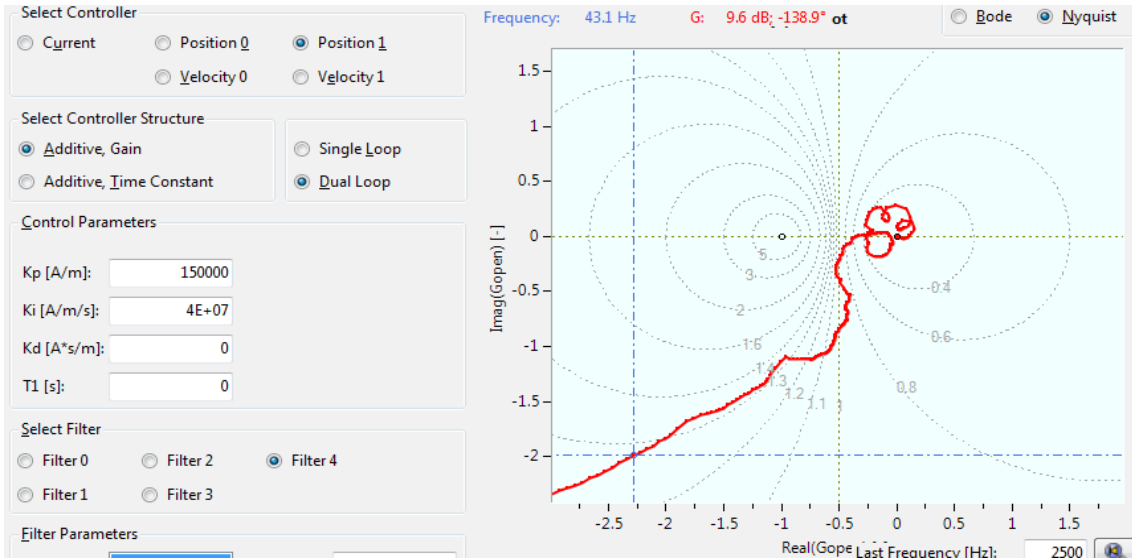

Figure 10: Nyquist view of the tuned outer controller loop.
- Now the integrator gain K_i can be adjusted in the **Nyquist** view so that the open loop transfer function touches but not exceeds the the circle labeled with 1.3 (Figure 10). This may requires also to adjust the proportional gain K_p . The following equation can be used to calculate an initial value for K_i .